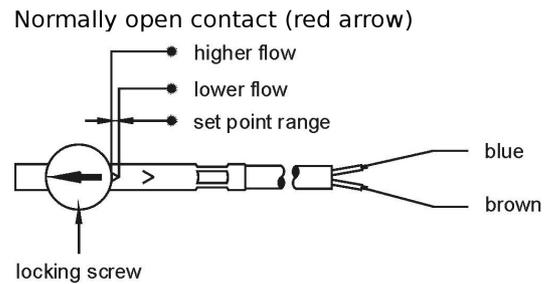
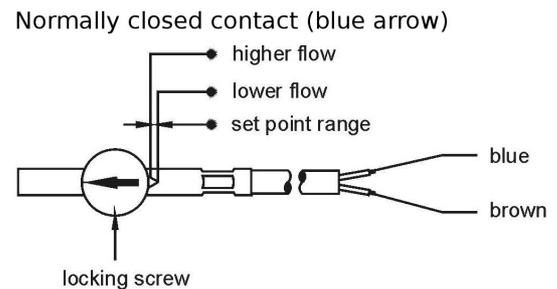

Fig. 20
Fig. 21
- ↖ Subsequently position the switching unit until the red (Fig. 20) or the blue arrow (Fig. 21) are visible at the entry of the switching unit guide for a desired make or break contact respectively (not required for change-over contact).